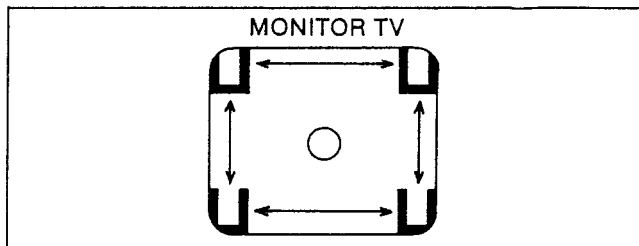

Fig. C8
- (3) Blind the lighting using frosted glass or acryl plate to diffuse incoming light, and also put a corrugated cardboard which inside is cut to "U" shape as shown in Fig. C8.
- (4) Connect the jumper wire between TP516 and TP520 to open the iris.
- (5) Adjust VR201 (Blooming control) so that blooming is just disappeared. If blooming is not disappeared completely, adjust VR201 until minimum blooming.
- (6) High Speed Shutter "ON" and "OFF" both mode, confirm that the monitored picture does not contain the blooming even the corrugated cardboard moves as shown in Fig. C8.